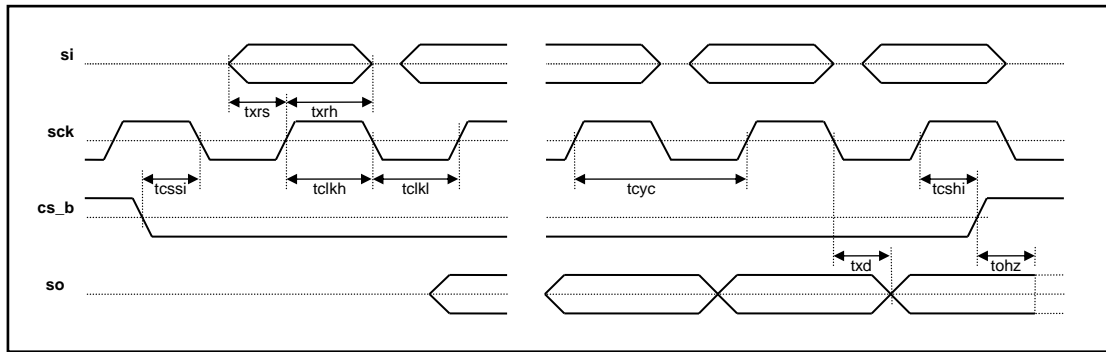
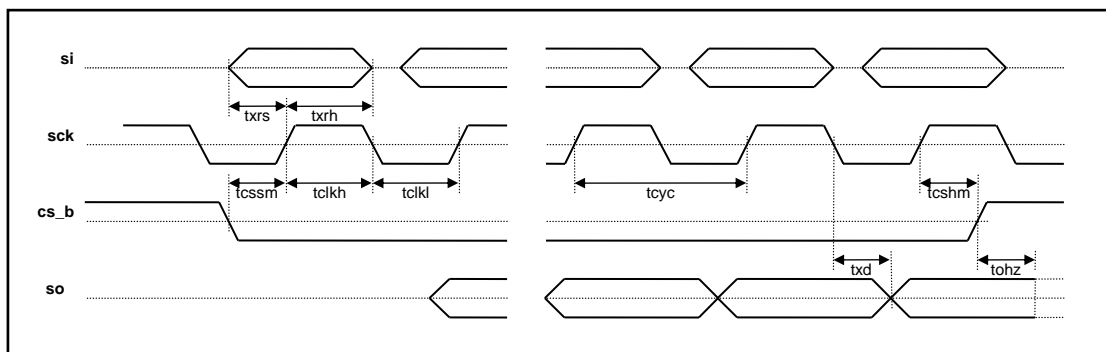

Figure 43. SPI (Serial Peripheral Interface) Timing - LSB First Mode
Figure 44. SPI (Serial Peripheral Interface) Timing - MSB First Mode
| 1 | sck period | tcyc | 124 | | | ns | See Figure 43& Figure 44 |
| 8 | cs_b setup from sck falling edge (LSB first) | tcssi | 20 | | | ns | See Figure 43 |
| 10 | cs_b setup from sck falling edge (MSB first) | tcssm | 20 | | | ns | See Figure 44 |
* For LSB first mode timing diagram, refer to Figure 43
* For MSB first mode timing diagram, refer to Figure 44